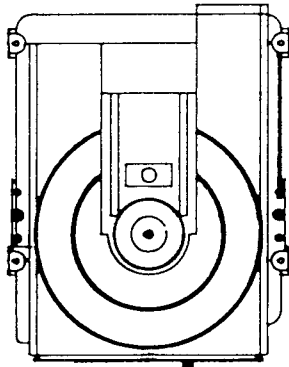

Fig. 4
- 2)Slide the bracket in the direction of the arrow (fig. 4)